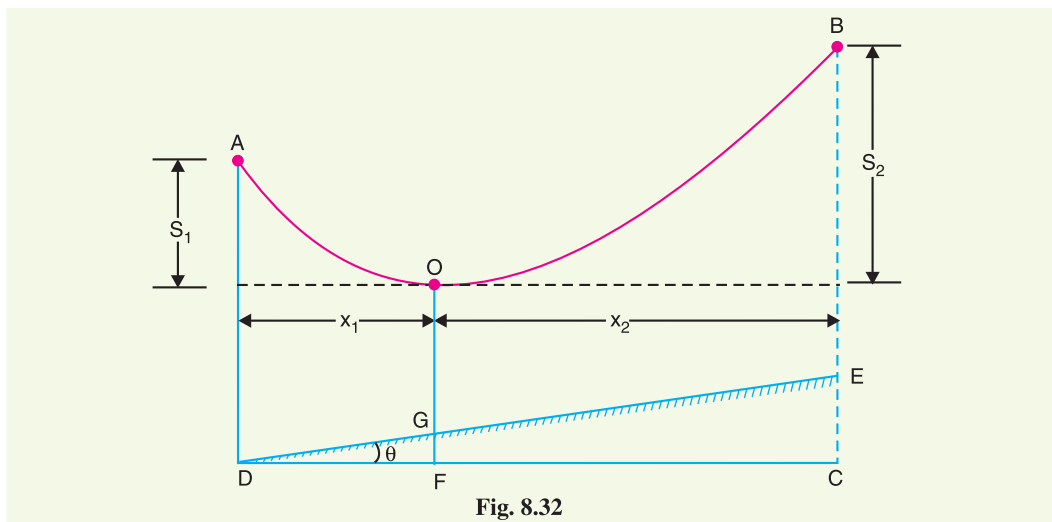

Fig. 8.32
**On sloping ground.** The conductors are supported between towers  $AD$  and  $BE$  over a sloping ground having a gradient 1 in 15 as shown in Fig. 8.32. The height of each tower ( $AD$  or  $BE$ ) is 18 m.